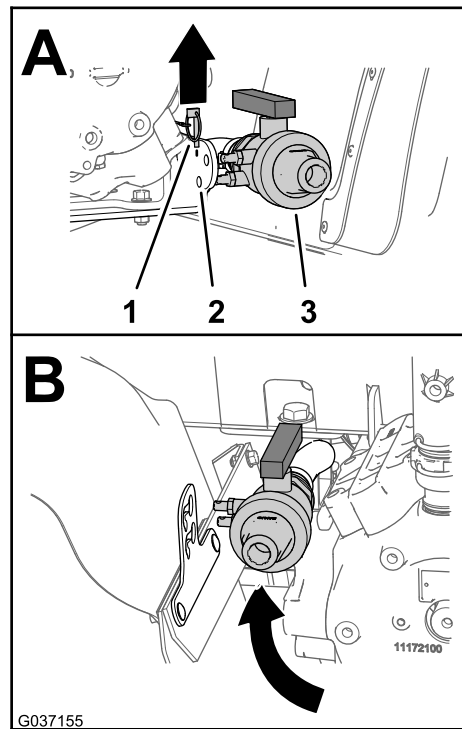

Figure 14
1. Remove the lynch pin that secures the drain valve to the sprayer-pump bracket (Figure 14).
2. Move the drain valve between the left, rear fender and the sprayer pump (Figure 14).